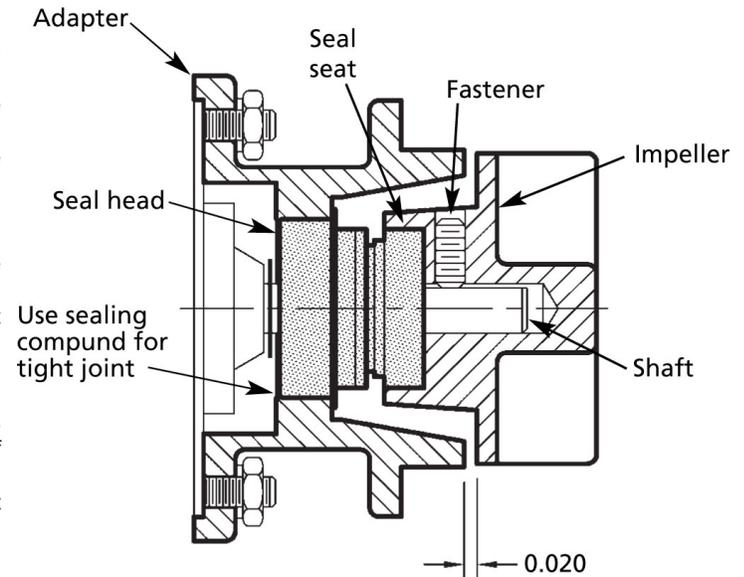

Figure 2
Refer to Figures 2, and 3
9. Press seal seat squarely into cavity in impeller (See Figure 2). If seal seat does not press squarely into cavity, it can be adjusted in place by pushing on it with a piece of pipe. Always use a piece of cardboard between pipe and seal seat to avoid scratching face of seal seat. This is a lapped surface and must be handled very carefully.
12. Replace impeller providing 0.020" clearance between adapter and impeller (see figure 2), then tighten impeller fastener.